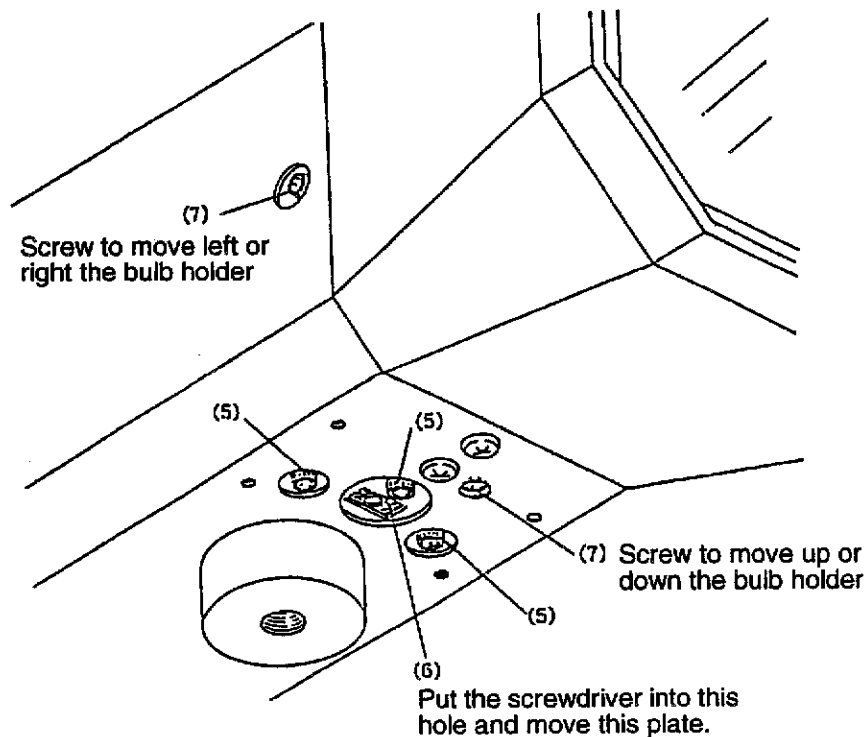

Figure 10-10 Positional Adjustment of the Strobe Bulb
- (3) Remove the four pan-head M3 screws fastening the bottom cover of the strobe light head (located before the mounting screw hole) and detach the cover.
- (4) Turn on the strobe light and check the illumination of the illuminated area on the screen. If the illuminations of the illuminated areas symmetrical to the center of the circle are not identical, adjust the position of the bulb as follows:
- (5) Loosen each M3 screw in each of the round holes ((5) in Figure 10.10) on the bottom of the strobe light head, put the screw driver into the round hole on the bottom plate of the bulb holder which you can see through the larger hole near the center round hole (5) on the bottom of the strobe light head, move the bottom plate of the bulb holder to get focusing.
- (6) Adjust the position of the bottom plate of the bulb holder so that the illumination spot may match the circle on the screen and tighten each screw in the round three holes (5). Then adjust the light axis in the following procedure:
- (7) Turn the M3 hexagonal socket head screws ((7) in Figure 10.10 which are located on the left side and on the bottom of the strobe light head) with the allen key so that the illuminated circle spot has even illumination in the center (approximately symmetrical to the center of the circle).